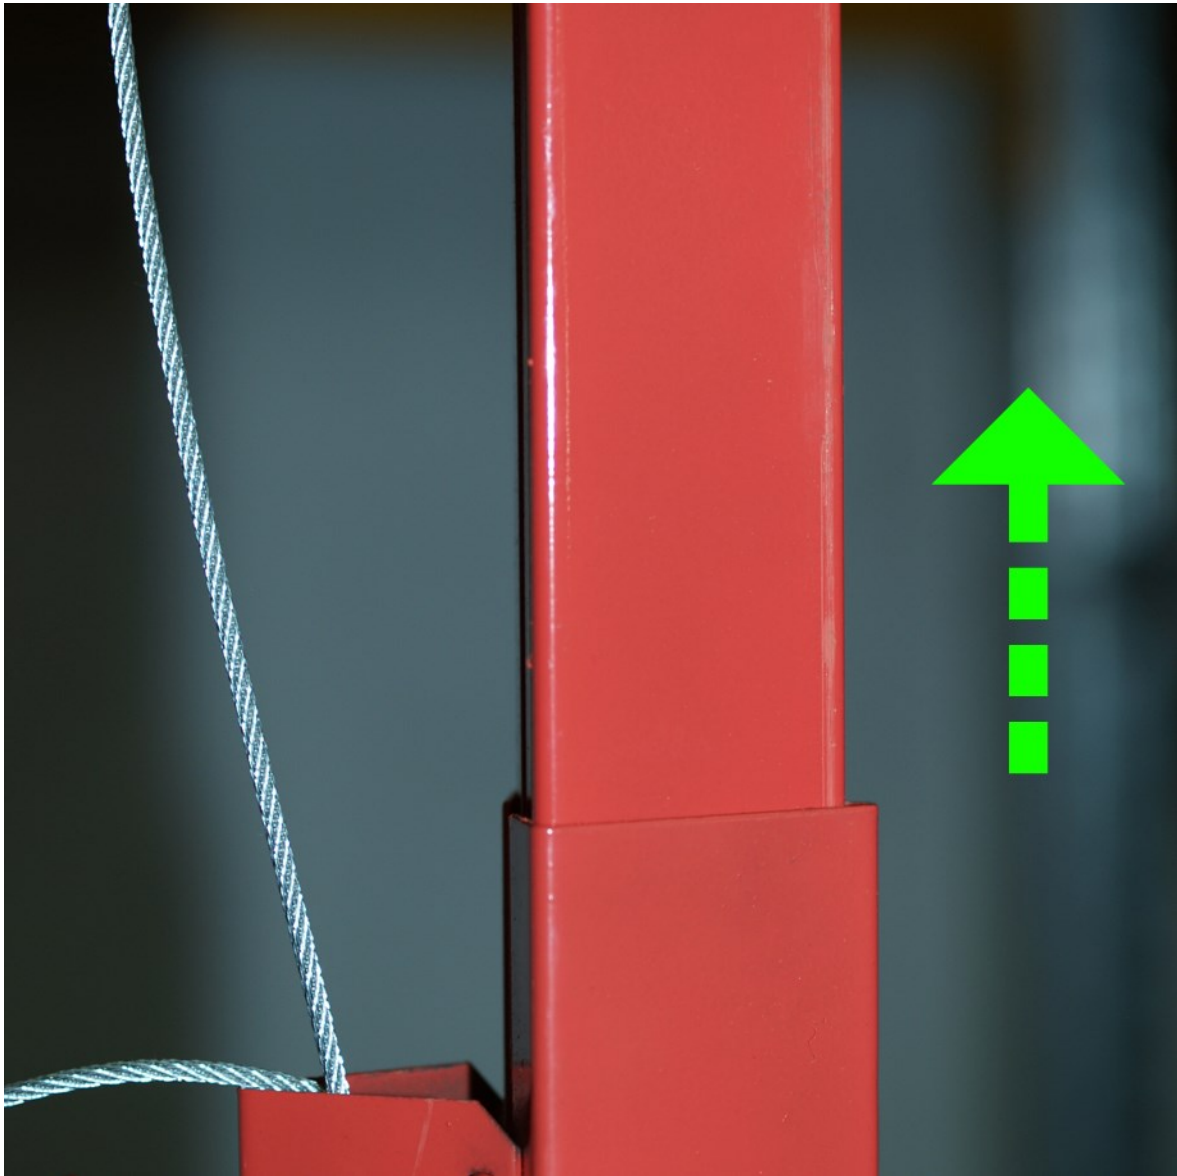

Figure 3
5. Pull out the telescopic bar upwards (Fig. 3).